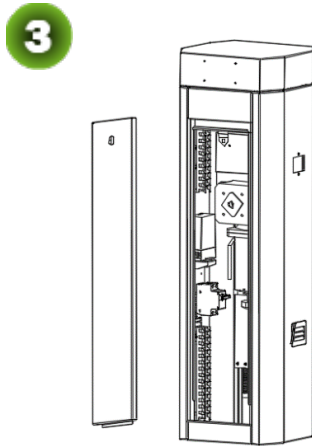

Figure 2-4
- 3) Open the access door and install the parking barrier, as shown in Figure 2-4.